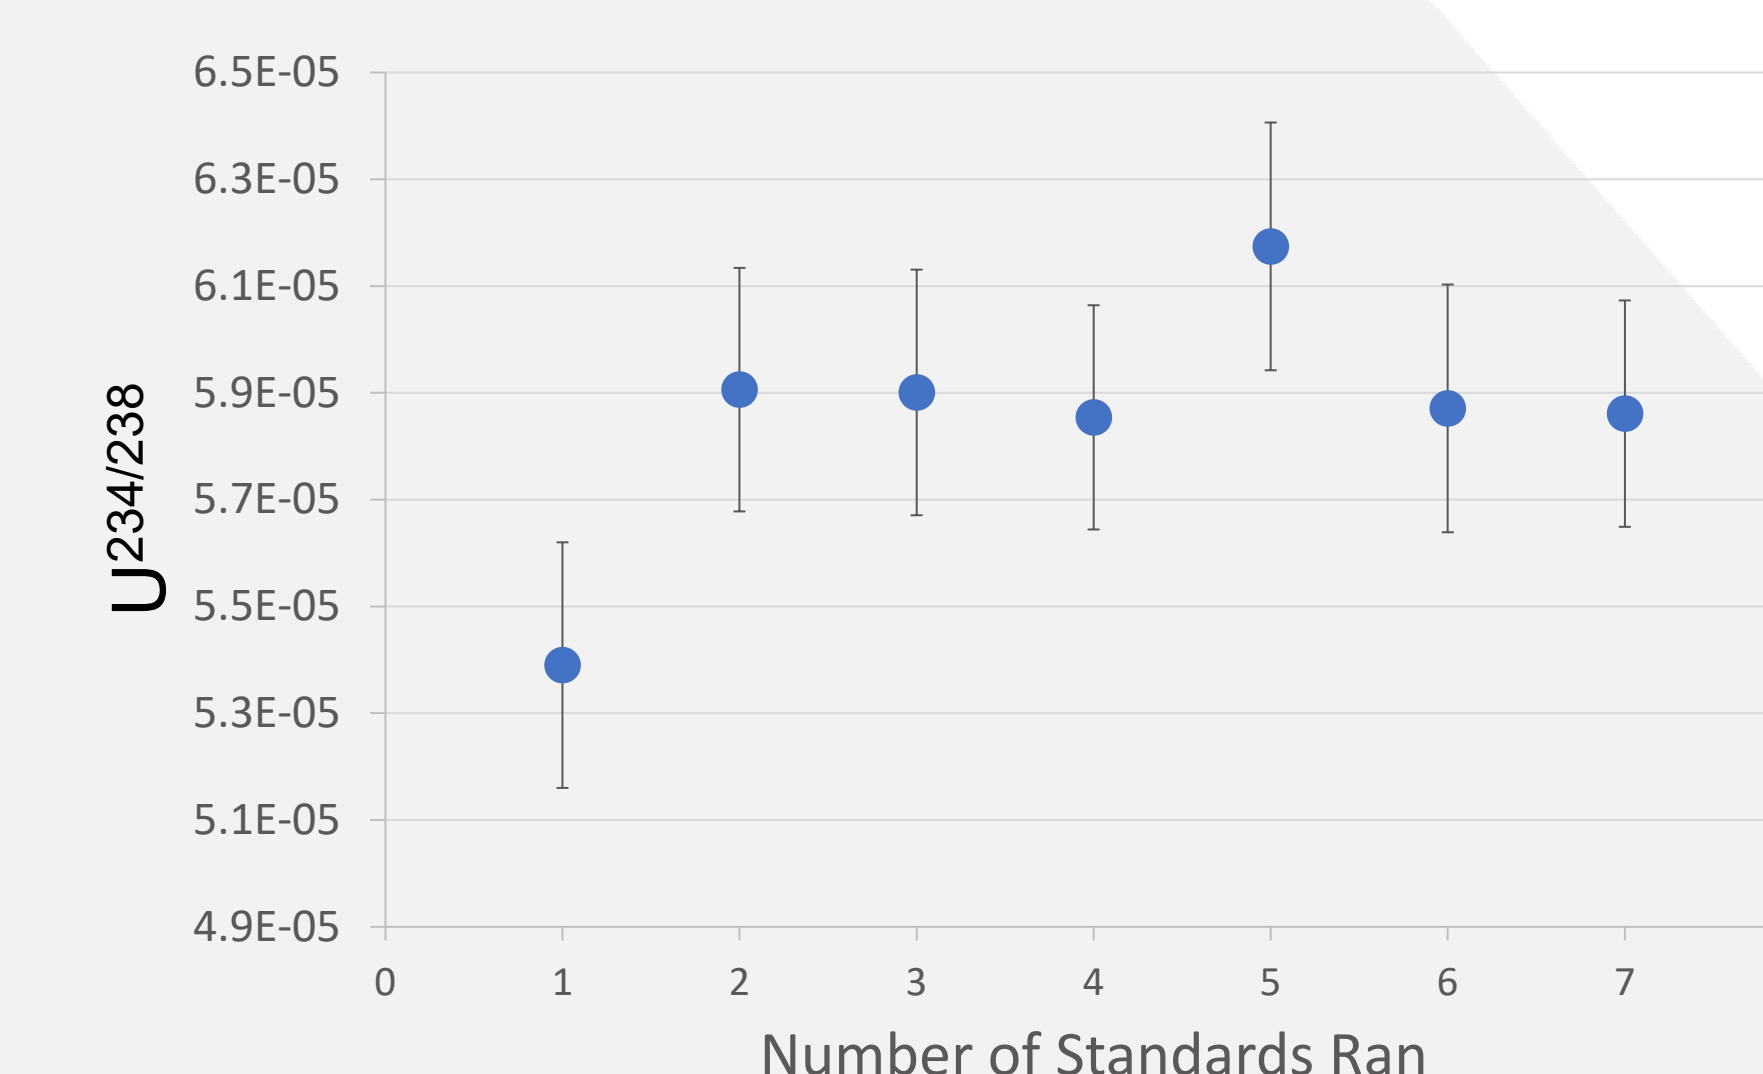
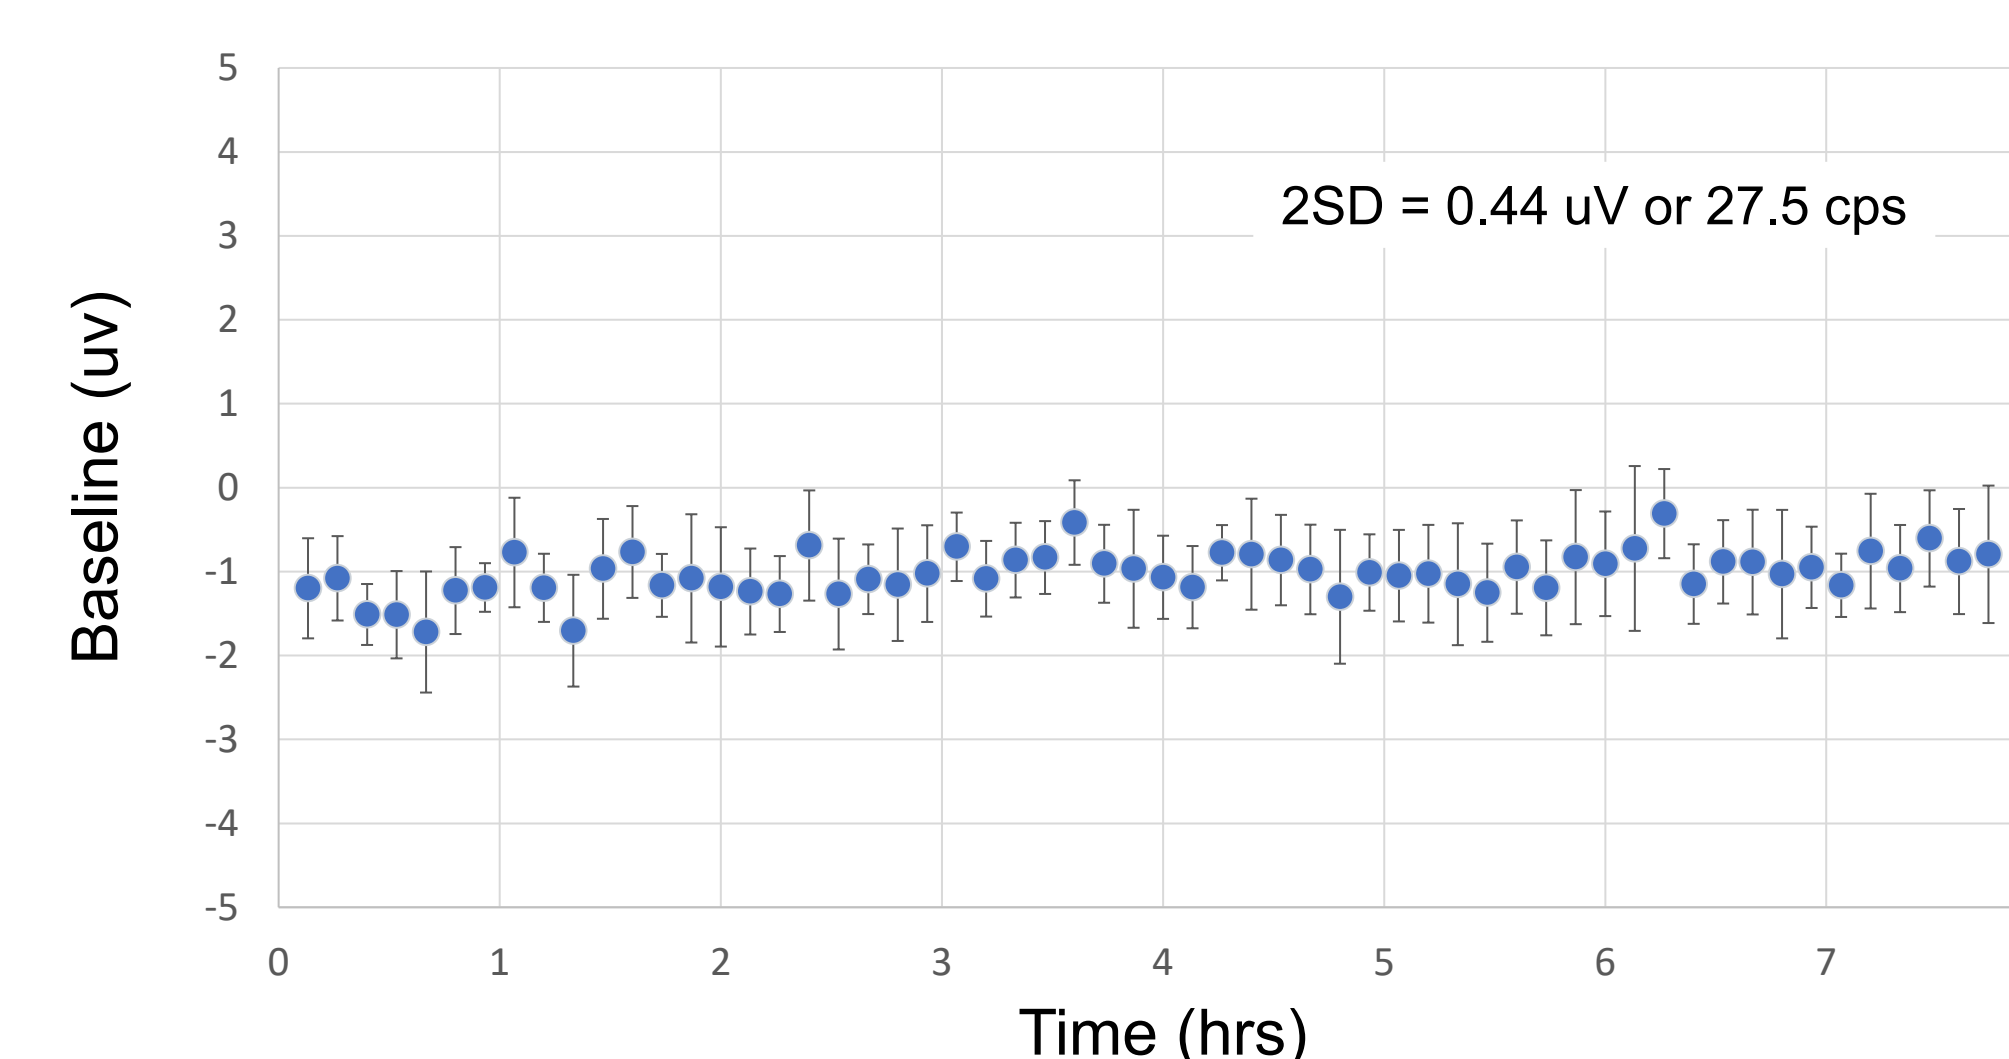
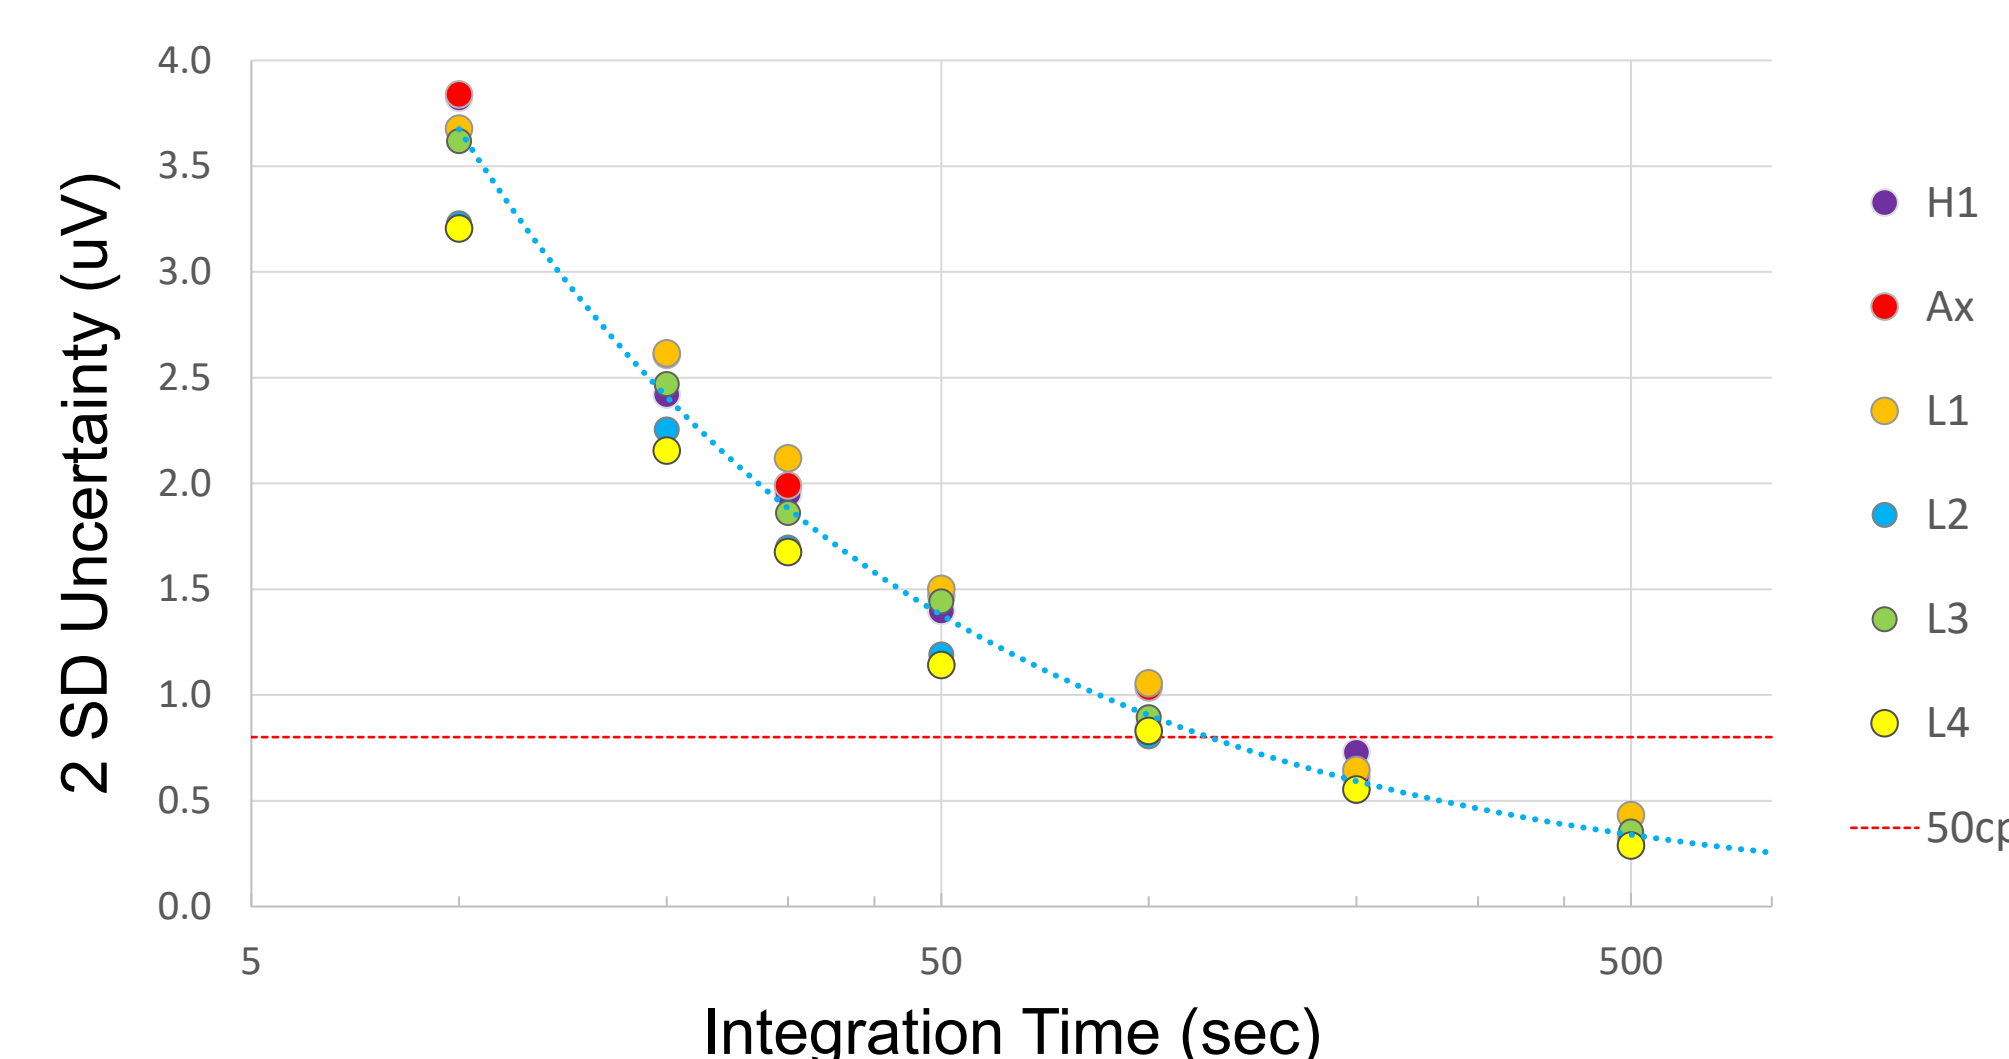
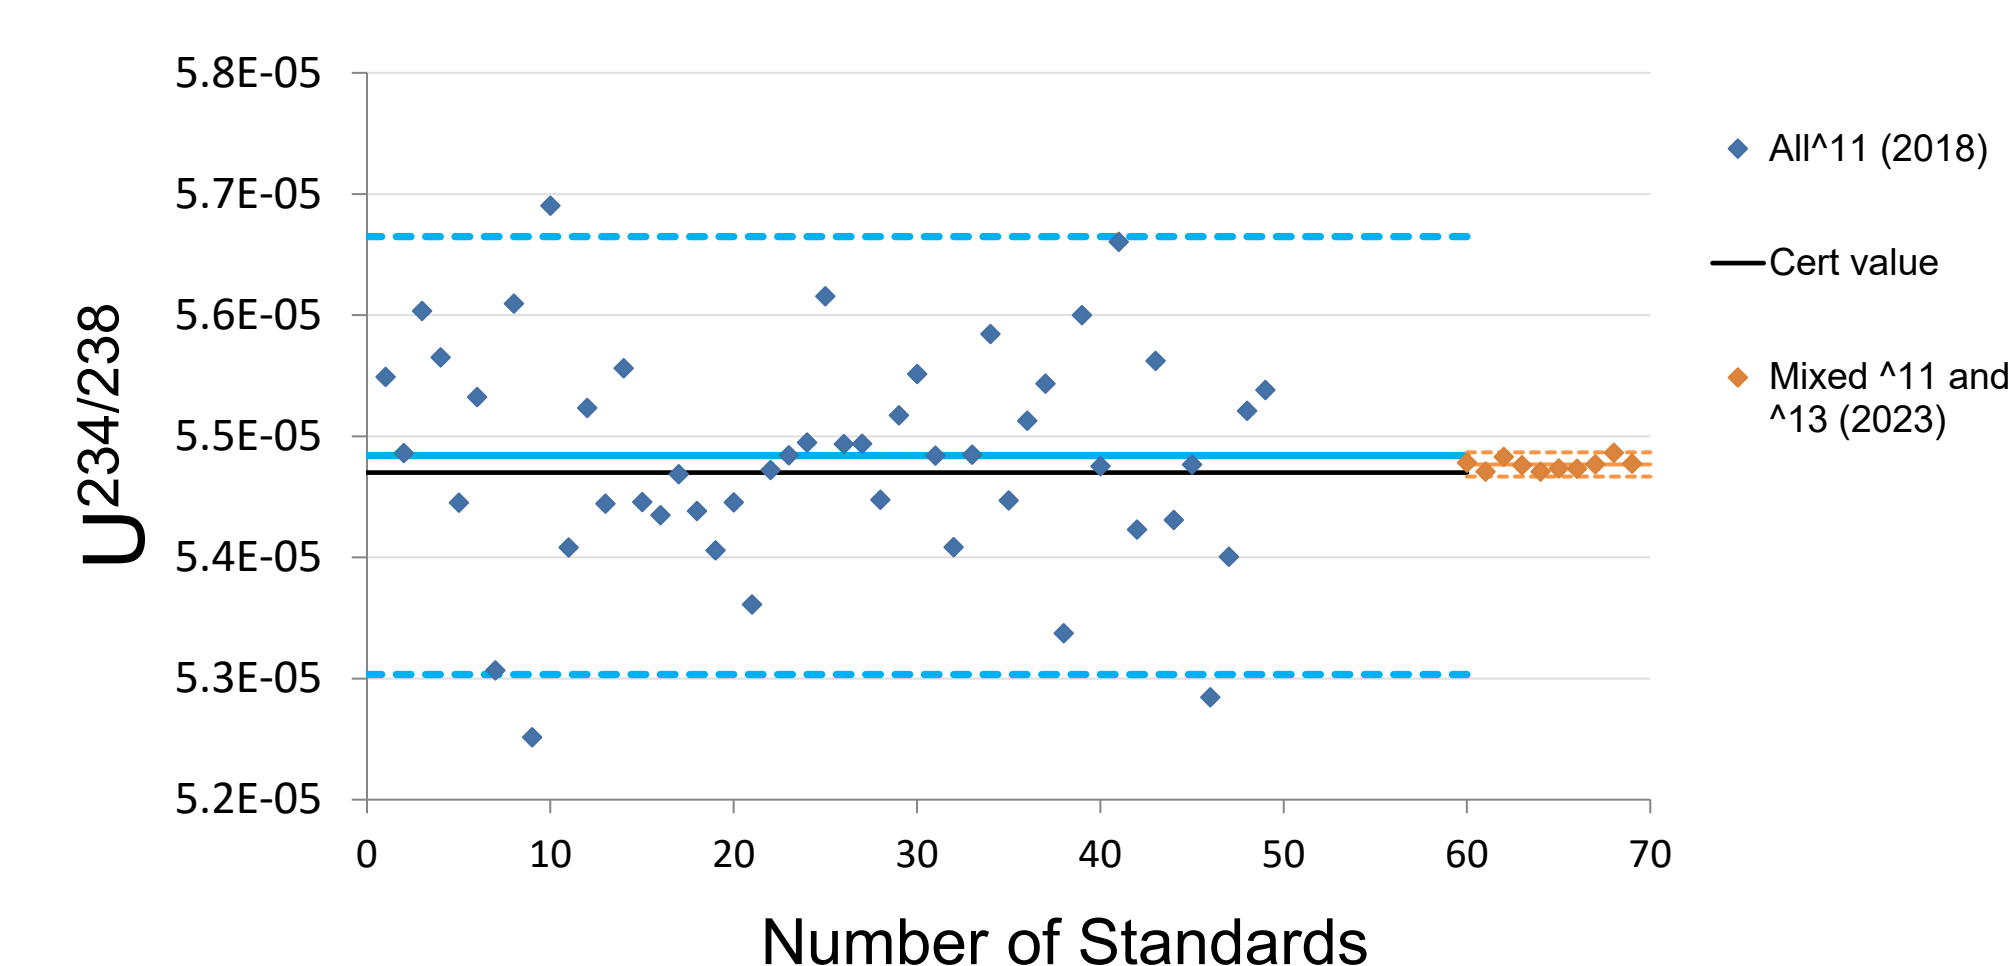

Fig. 2: 45 min static measurements with 0.9 cps on U²³⁴
Fig. 3: Faraday long term noise at 480 second Integrations
Fig. 4: 2SD uncertainty of 10¹³ amplifiers
Fig. 5: 50 ng TE runs, highlighting low noise amplifier improvements
SEM noise is specified below 0.1 cps but typically approaches 0.01 cps (Table 3), enabling seamless 1 cps measurements (Fig. 2). Paired with these ultra-low noise SEMs are advanced low-noise Faradays, offering significant gains over older amplifiers (Fig 3, Fig 4) and supporting smaller sample sizes in Total Evaporation (TE) runs (Fig. 5, 50 ng).